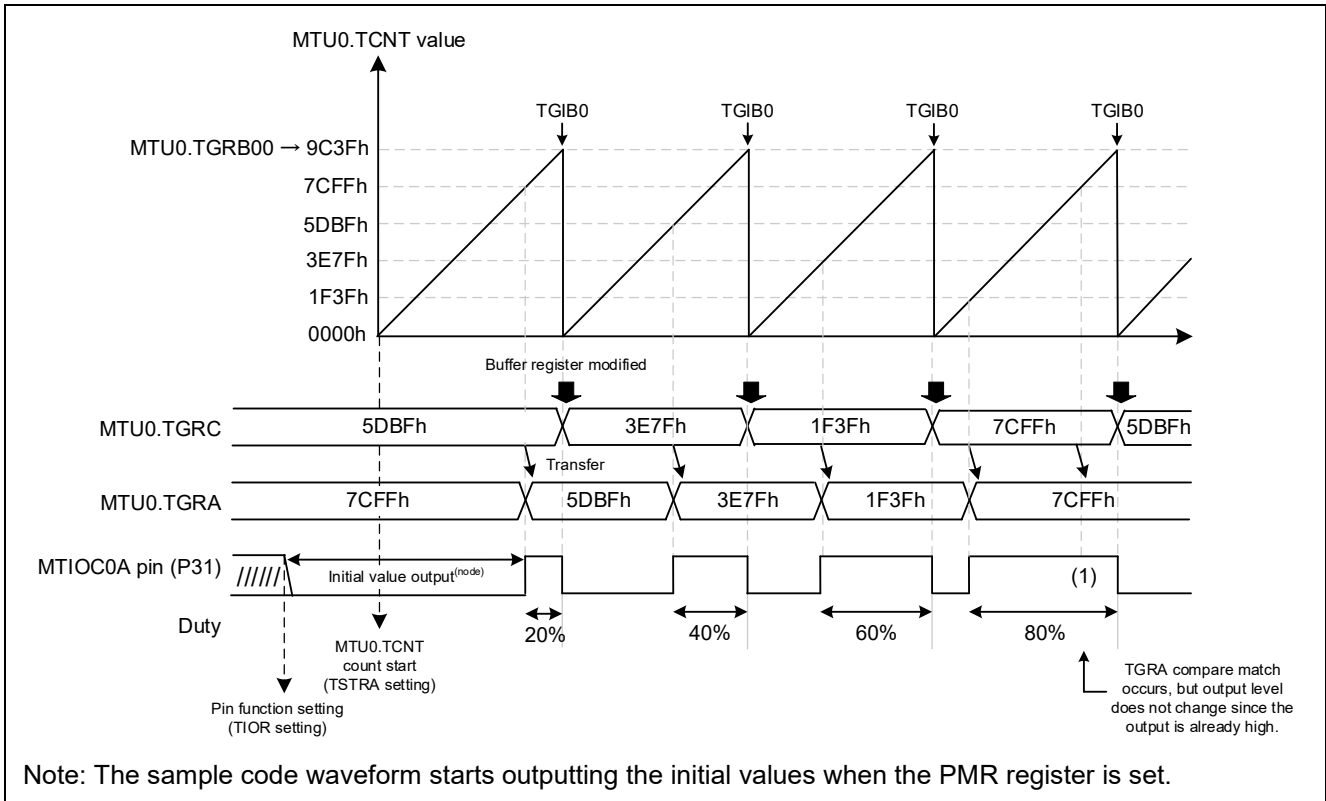

Figure 3.7 Sample Code Operations
- Refer to Figure 3.7 for details on the timing for duty cycle changes
The sample code operations are shown in Figure 3.7. The settings of the duty cycle are changed with each period by modifying the value of buffer register TGRC at the TGIB0 of period register TGRB. The TGRC value is transferred to duty register TGRA when a TGRA compare match occurs.
For details, refer to (1) in Figure 3.7.